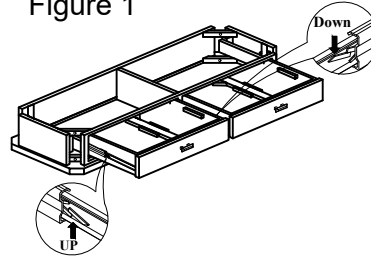

Figure 2
3. Attach the three legs to the drawer box top using Bolt (A), Lock Washer (C) and Flat Washer (D) and tighten with the Allen Wrench (E). As Shown in Figure 2.